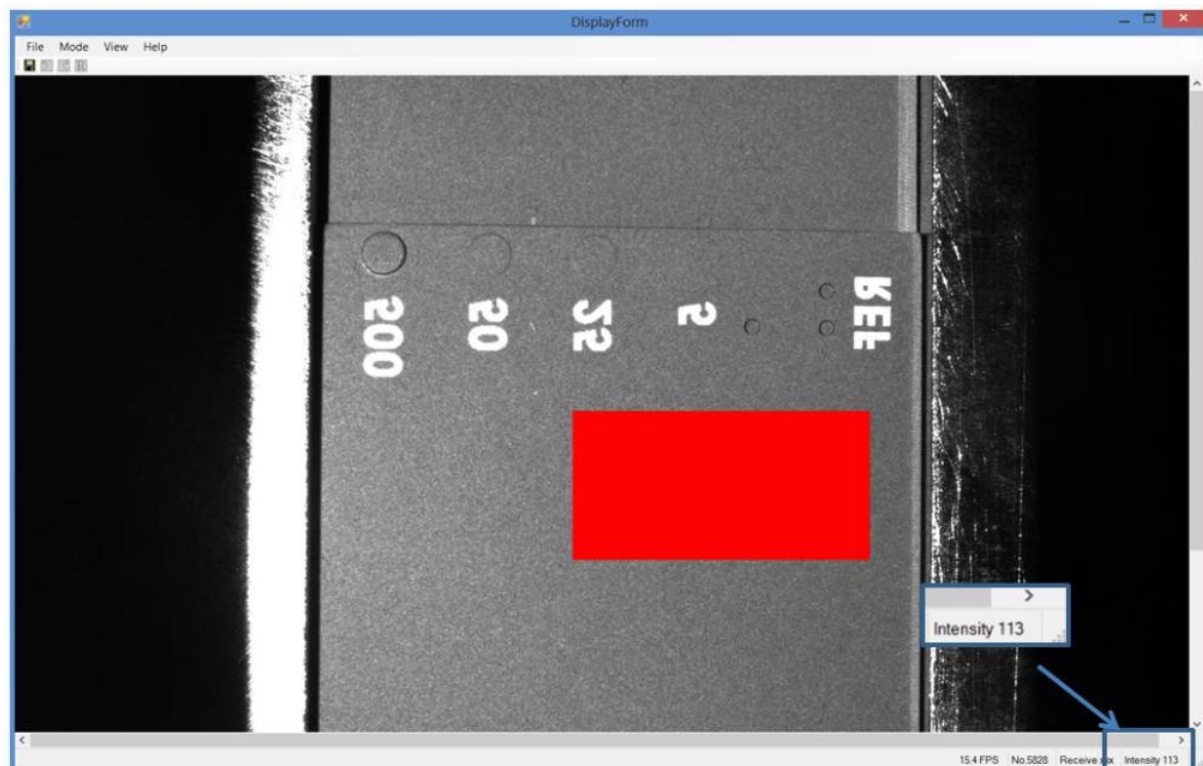

Figure 58 Aperture Dial Turning
59. Turning the dial for Optical Camera Aperture as below Figure 58.